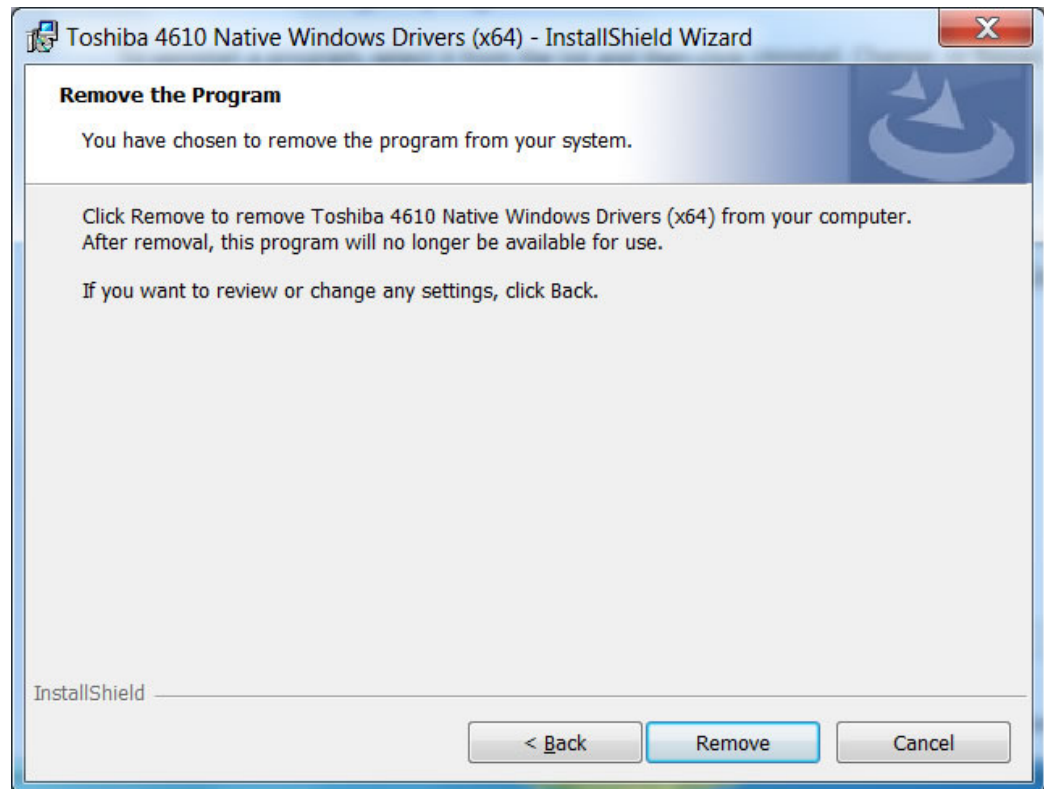

Figure 7. Remove the Program window
3. The Remove the Program window opens. Click **Remove** to remove the printer driver from the system. See Figure 7.